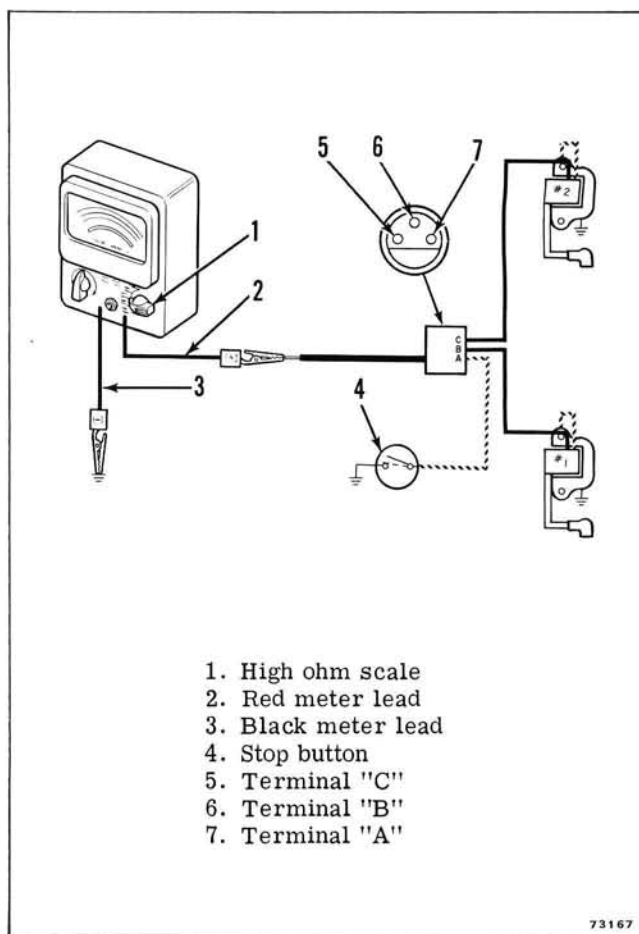

Figure 4-33. Stop Button Circuit Test
b. Calibrate the ohmmeter to high ohms scale. Connect the meter red lead (+) to the "A" terminal in the ignition coil end of the connector, and the meter black lead (-) to a clean engine ground. See Figure 4-33.